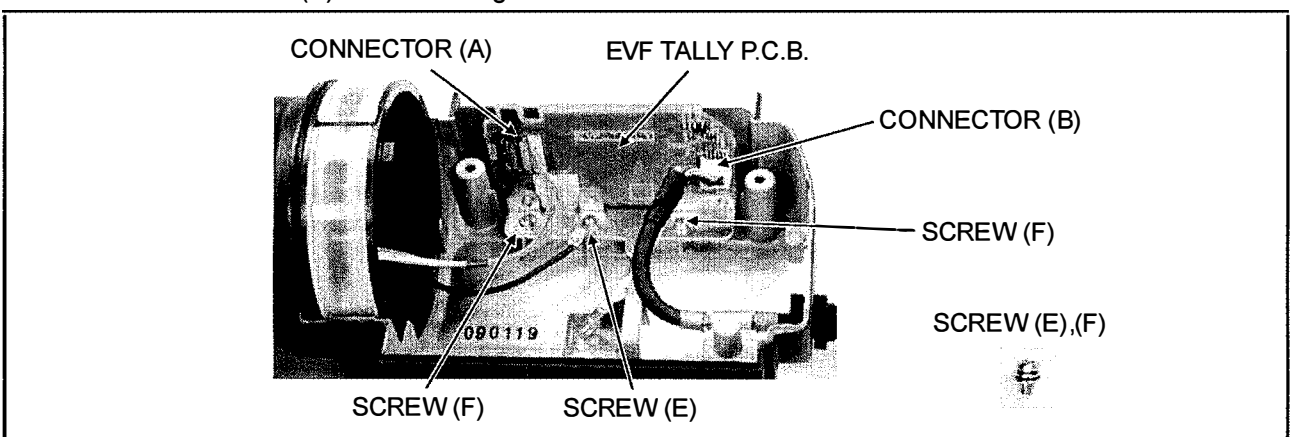

Figure 11-3
6. Disconnect the connector (A) and (B) as shown in figure 11-3.
7. Unscrew a screw (E) as shown in figure 11-3 and remove the GND cable.
8. Unscrew the 2 screws (F) as shown in figure 11-3 and remove the EVF TALLY P.C.B..